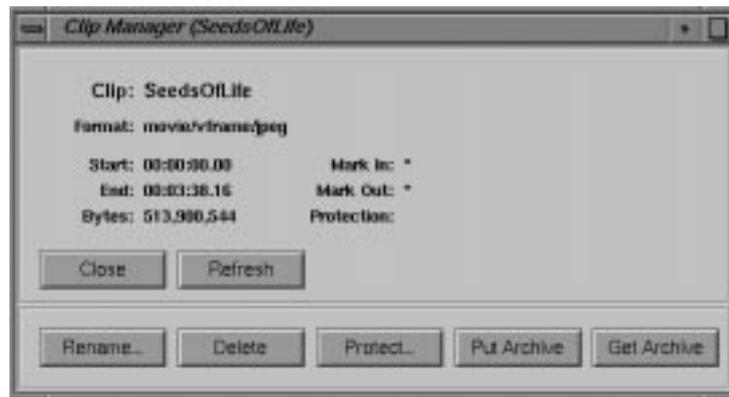

Figure 7-2 The Clip Information Window
2. Choose File > Info from the menu bar. The clip information window, as shown in Figure 7-2, appears.
This window shows the in- and out-points of the clip, the edit points, the size of the clip, and the protection. An asterisk (*) indicates that the value is not set. For example, Figure 7-2 indicates that the edit points are not set.